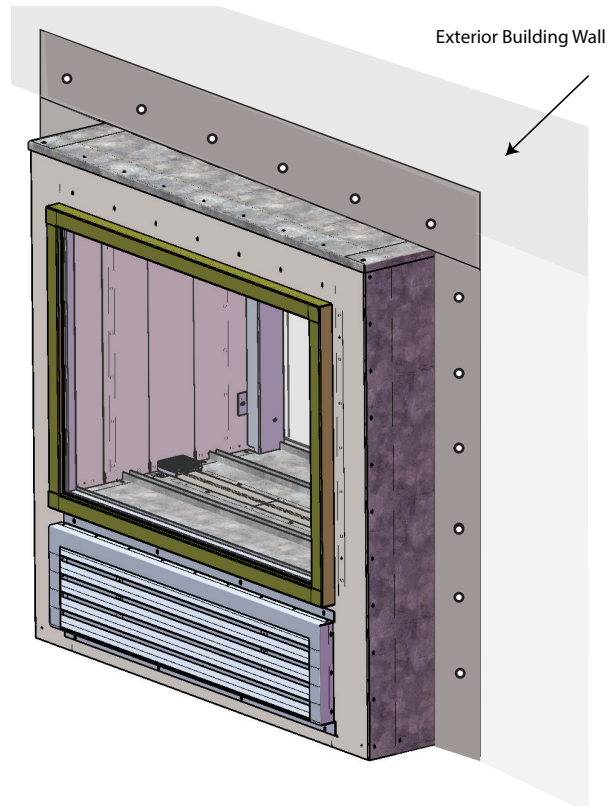

Figure 4a: Slide unit into place from the outside of the building until the flashing is flush to the exterior wall
STEP 4: Slide the unit in place into the intended location from the outside of the building until the flashing is flush with the building exterior. (See Fig. 4a)
STEP 1: Once the unit is in place from the outside, confirm that there is clearance to combustibles; 1/2" on the sides and 3" on the top. (See Fig. 4a)